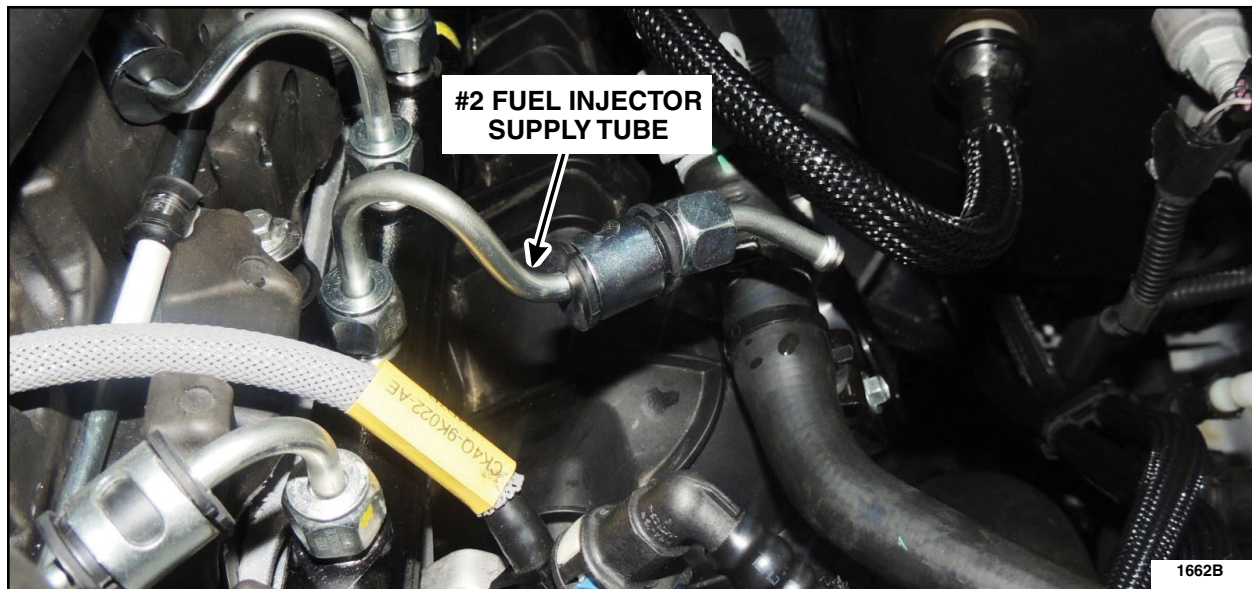

FIGURE 1
1. Remove all dirt and foreign material from the #2 fuel injector supply tube. Disconnect the tube at the fuel injector and at the fuel rail. Rotate the tube 180 degrees and reinstall at the fuel rail. See Figure 1.